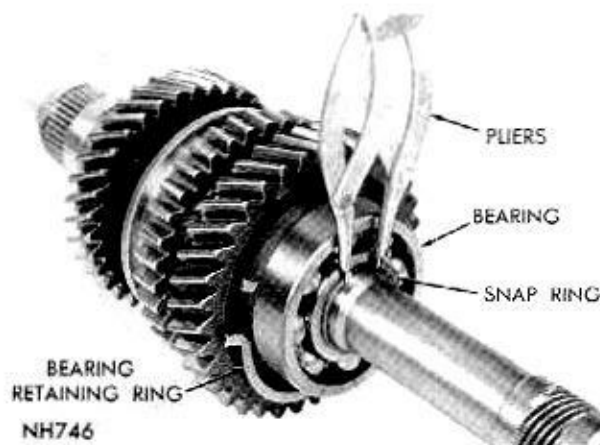

Fig. 23—Removing or Installing Mainshaft Bearing Snap Ring—Rear
(9) Remove snap ring that retains mainshaft bearing on the shaft (Fig. 23). Remove bearing from mainshaft by inserting steel plates on front side of 1st